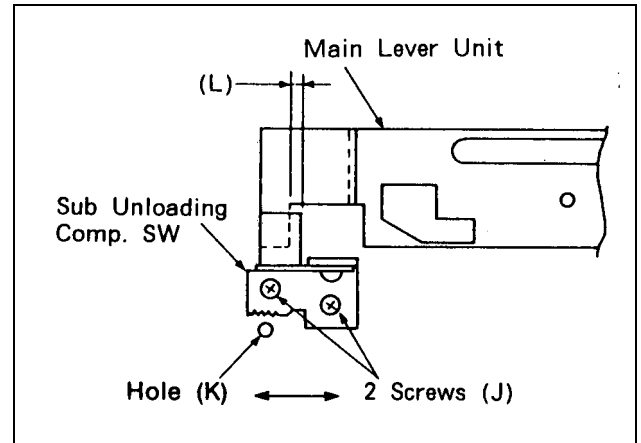

Figure 7-24-5 Sub unloading Completion SW
2. Loosen 2 screws (J) as shown in figure 7-24-5.
3. Insert Fine adjustment driver (VFK0446) into the hole (K) as shown in 7-24-5.
4. Turn the Fine adjustment driver (VFK0446) so that (L) is $2.0 \pm 0.2\text{mm}$ as shown in 7-24-5.
4. If the voltage is out of the specification, loosen 2 screws (J) shown in figure 7-24-5 and insert fine adjustment driver into hole (K).
6. After adjustment, tighten 2 screws (J).